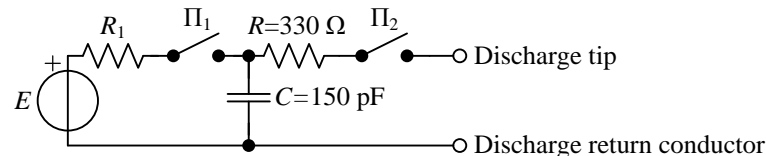

Figure 1. Simplified electrical scheme of the ESD generator.
A simplified electrical scheme of the ESD generator is shown in Fig. 1. The high-voltage direct current (DC) generator E charges the capacitor C through resistor R_1 when the switch Π_1 is closed, while the discharge switch Π_2 is open. Once the capacitor C reaches voltage E the switch Π_1 can be opened. The discharge is then initiated by closing the switch Π_2 .